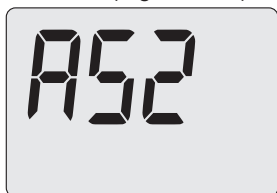

Figure 5.41
- Press 12 and hold until the LCD display shows the code **A52**, indicating entry into “parameter A52” (Figure 5.41).
- Press 12 or 13 (Figure 5.38) to confirm the value entered and return to the list of parameters (Figure 5.41).